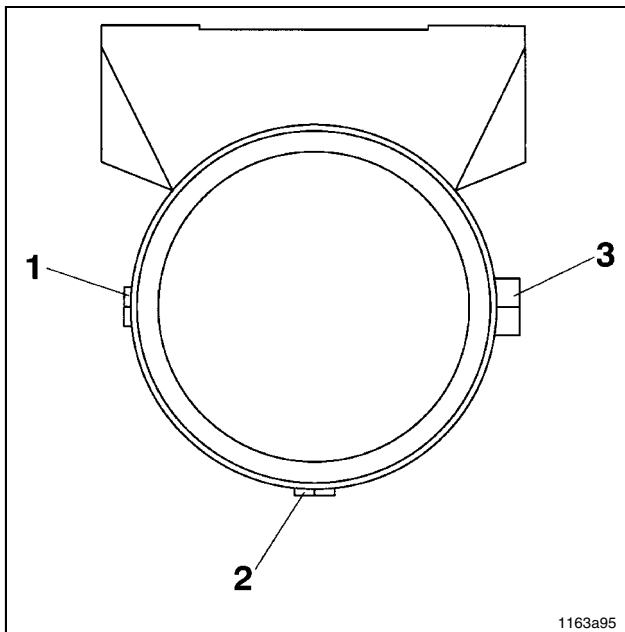

Fig. 10 Arrangement of the pump elements
- Loosen counter nut (2, Fig. 10) while holding in position pump element body (3) by means of a second wrench.
- Change the position of the adjusting spindle (1) by means of a wrench.
- The dimension "S" (see Fig. 10) for the desired lubricant output can be ascertained by using the delivery diagram shown in Fig. 11.
- Unscrew the adjusting spindle (1, Fig 10) from the pump element body (3) until "S" is approx. 30 mm.
- Screw counter nut (2) onto stop collar of the adjusting spindle (1)
- Screw adjusting spindle (1) with counter nut (2) into pump element body (3) until stop.
¹⁾ All indications of positions refer to Fig. 10.